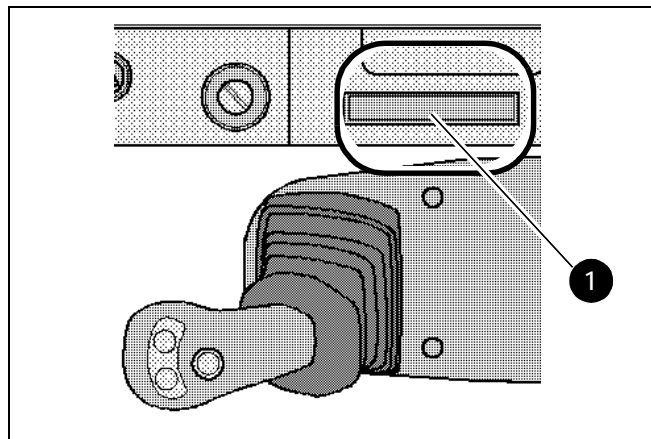

Figure 4-10 Fuse Panel
The fuse panel is located on the right-hand console, toward the rear, below the switches. See (1) Figure 4-10.